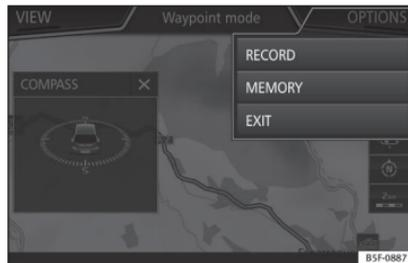

Fig. 171 Offroad Navigation Menu start
- The Offroad Navigation menu opens >>> **Fig. 171**.